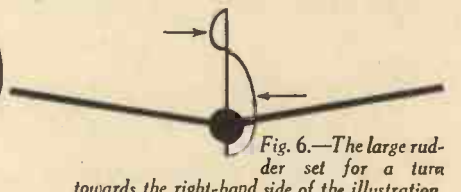

Fig. 6.—The large rudder set for a turn towards the right-hand side of the illustration.
Fig. 6 shows a diagram comparable with Fig. 1, but with the differential rudder added. The lift and gravity forces remain as before. In Fig. 6 the large rudder is set for a turn towards the right-hand side of the illustration, and the forces acting on the two rudders will then tilt the aeroplane so
**Countersinking.**—Countersunk holes are required chiefly when using wood screws, their purpose being to allow the head to lie flush with the surface of the wood. Countersinking is done by means of one of the bits described under Bits, and illustrated in Fig. 6 (shown last month).